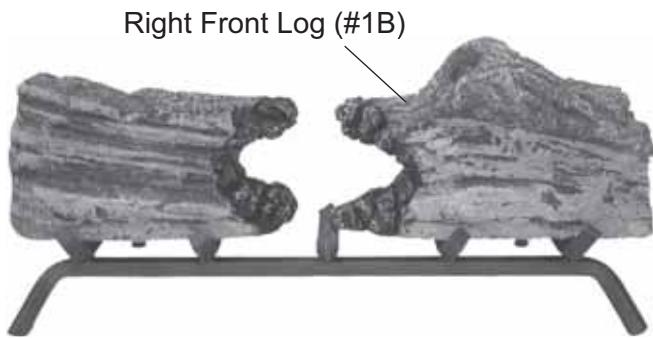

Figure 104 - Placing Right Front Log (#1B) on grate
3. Place Right Front Log #1B on front right of the grate. See *Figure 104*.